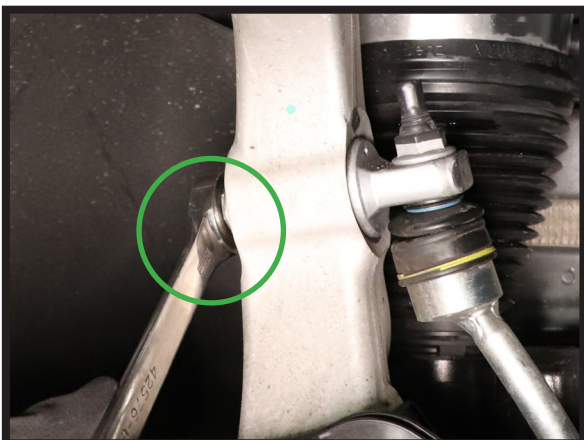

FIGURE 9
9. DISCONNECT THE SWAY ARM LINKAGE. (FIGURES 9, 10)